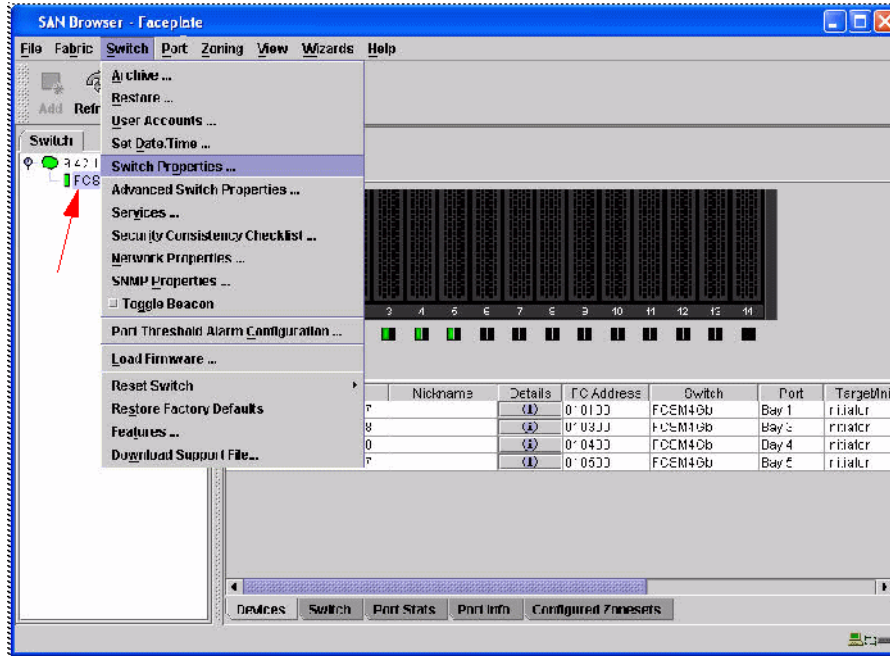

Figure 7-45 SAN Browser - Faceplate window
1. From the Topology window in the left pane, click the drop-down tree and double-click the IP address. Next, select your switch (in our example, the default is FCSM4Gb). Select **Switch** → **Switch Properties...** (Figure 7-45 on page 207).